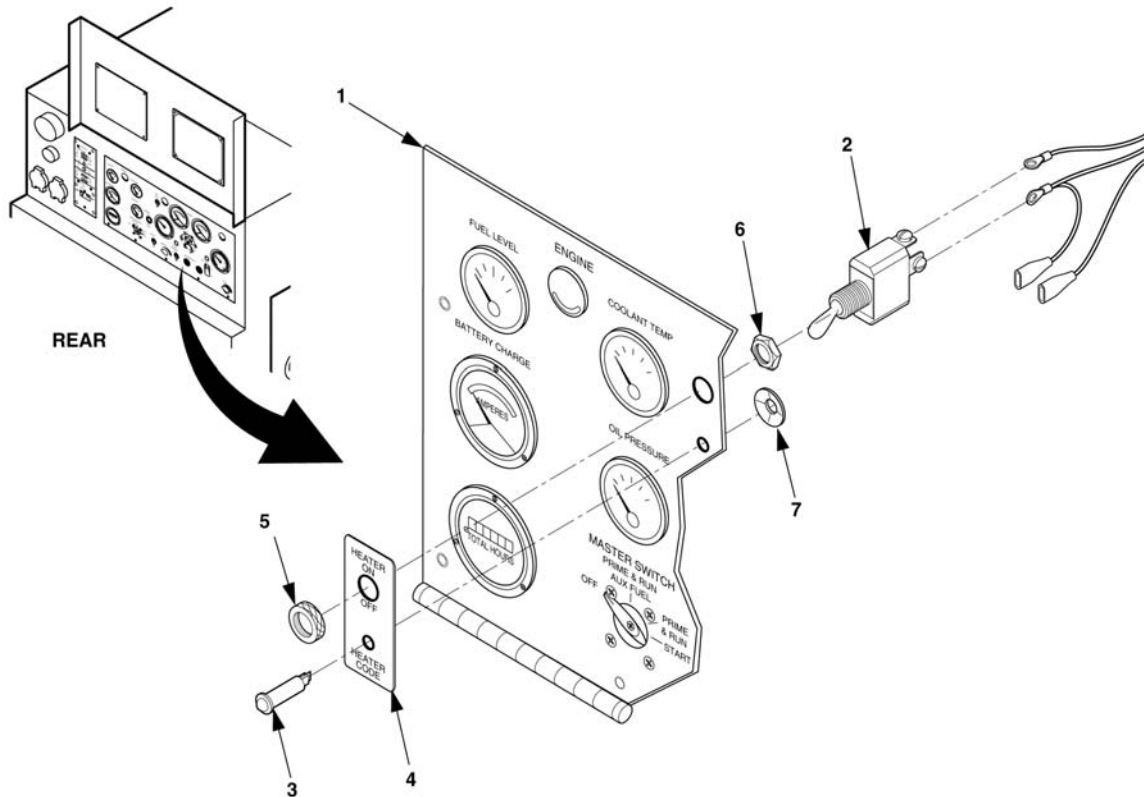

Figure 6-18. Heater Switch/Heater Switch Label//Indicator Light Maintenance
- a. Using the heater switch plate (4, Figure 6-18) as a guide, drill a 5/16" and a 1/2" hole in control panel (1).